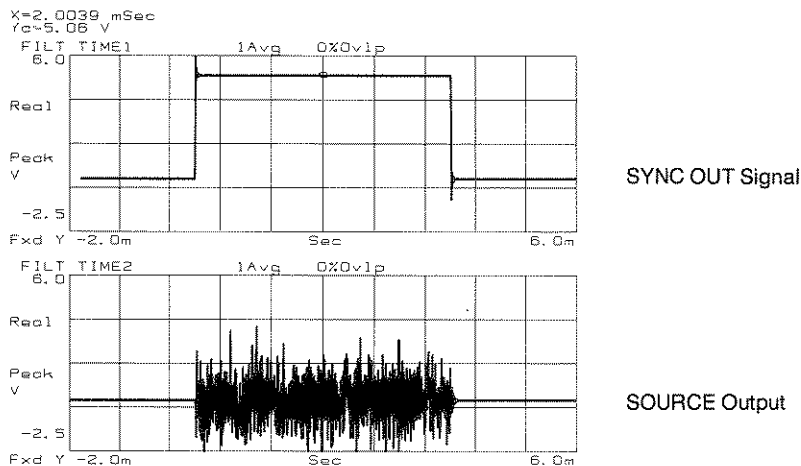

Figure 12-9 The SYNC OUT Signal
**SYNC OUT (connector)**—this output provides a TTL-level signal synchronized to the source. When the burst chirp or burst random is active, the duty cycle of the SYNC OUT square wave equals the burst percentage. (This is the signal that controls the bursts.) When random noise, periodic chirp or fixed sine is active or the source is off, the duty cycle of SYNC OUT is indeterminate. Figure 12-9 shows the SYNC OUT signal (upper trace) with the burst random source output (lower trace).